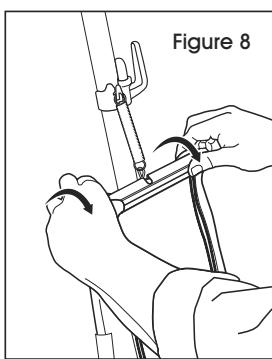

Figure 8
2. Release bag cap by grasping finger tabs and rotating the cap toward back of bag. (See Figure 8)